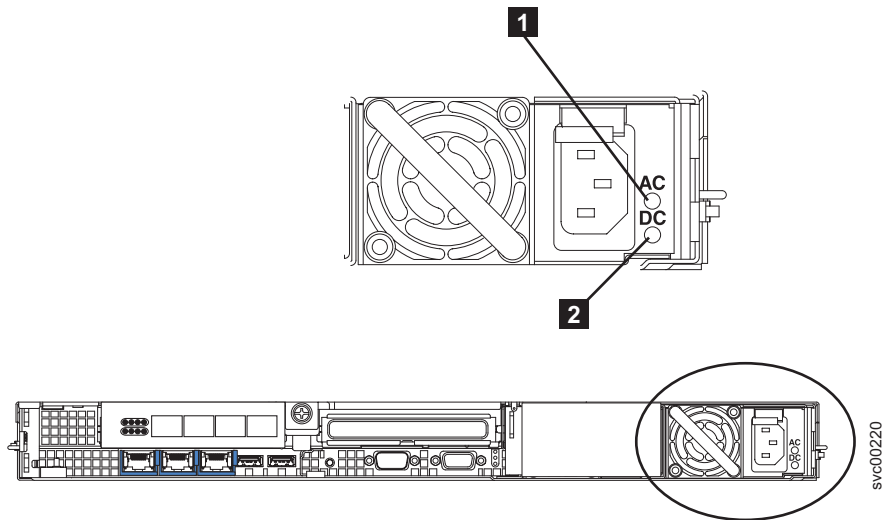

Figure 159. SAN Volume Controller 2145-8G4 ac and dc LEDs
4. Make sure that the ac power LED **1** and the dc power LED **2** (shown in Figure 159 on page 167) on the power supply are lit, indicating that the power supply is operating correctly. The two green LEDs are next to the power-cord connector.